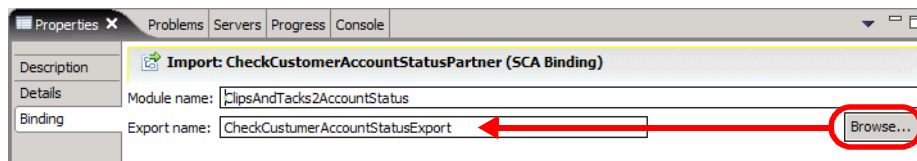

Figure 15-5 Selecting the SCA binding
- ▶ Select the new import and in the Properties view, Binding tab, click *Browse*. In the selection dialog select the *Check Customer Account StatusExport* entry from the ClipsAndTacks2AccountStatus project (Figure 15-5).